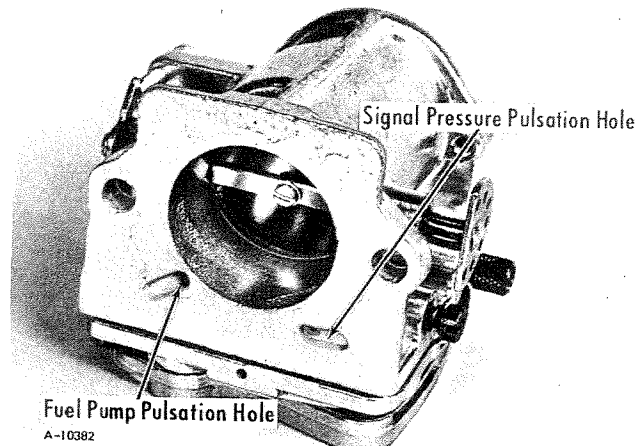

FIGURE 30
3. If bubbles occur at the pulsation hole of the fuel pump (Figure 30), the fuel pump diaphragm is leaking and should be replaced.